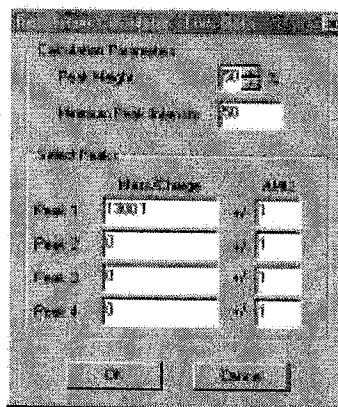

Figure 4-15 Resolution Calculator
3. In the Resolution Calculator dialog box (Figure 4-15), set the percentage of **Peak Height** at which to calculate resolution. The default is 50%, which calculates the resolution at the full width/half maximum of the peak (FWHM).